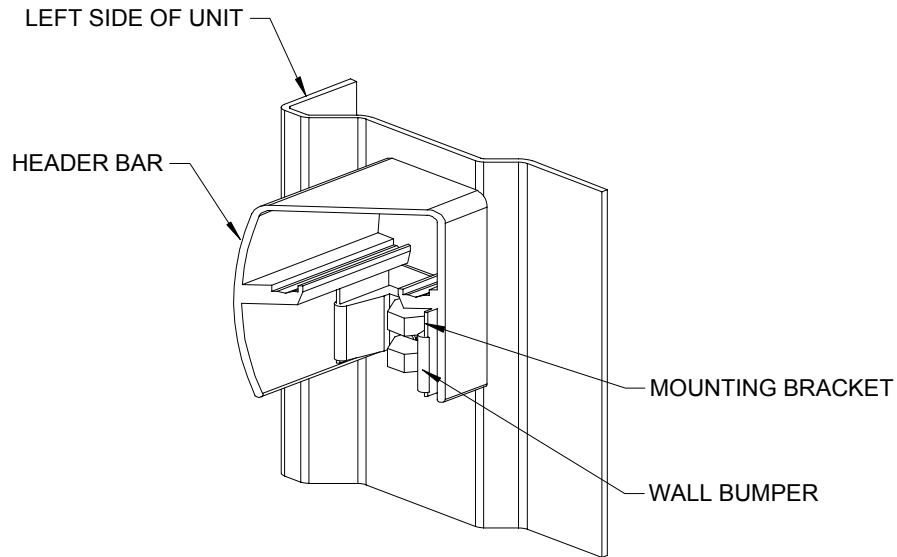

Figure 4
1. Measure the distance between the walls at the mounting bracket location. **ONLY IF REQUIRED**, cut the header bar with a fine hacksaw and place it over the brackets as shown in **FIGURE 4**. Make sure header bar is level.